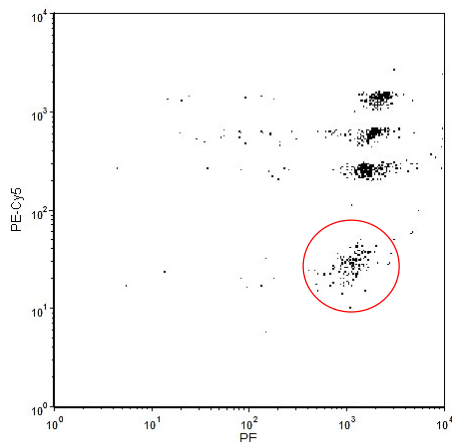

Figure 4
- 3) Apply proper "PE-Cy5" - %PE color compensation so that the bead populations are in a horizontal position (Figure 4: small red circle is an example of proper color compensation setting).